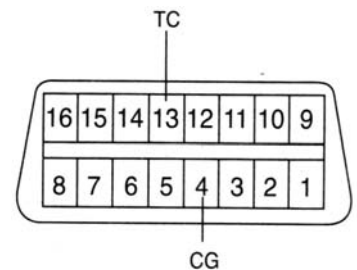

Figure 2
7. Check ignition timing See (Figure 2)